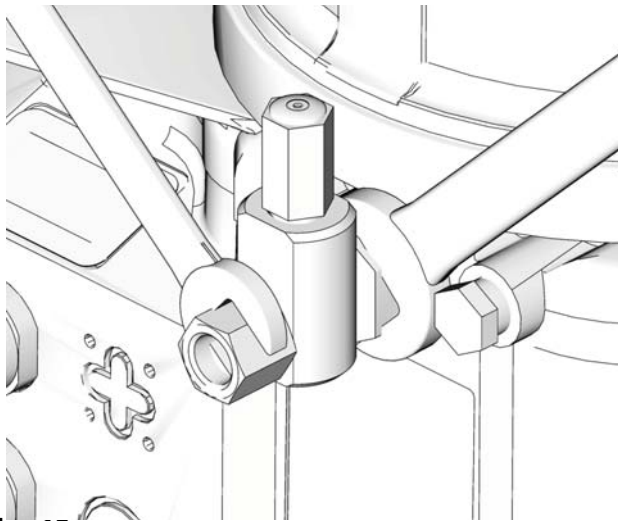

FIG. 12
- Always use two wrenches working in opposite directions when connecting anything to pump element or auxiliary fittings. See FIG. 12 for an example.